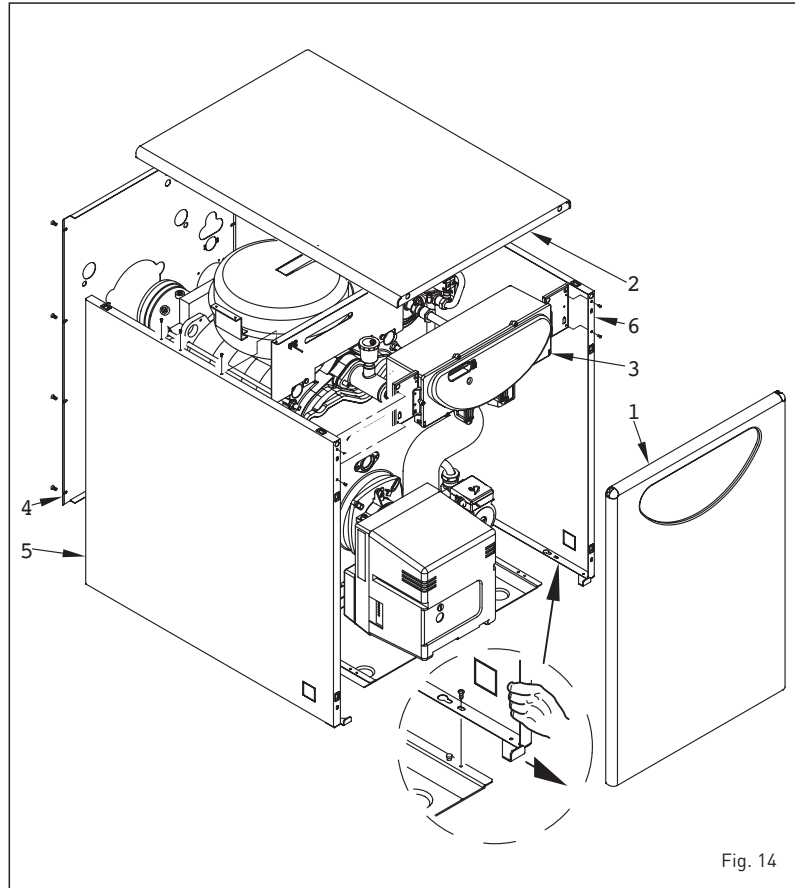

Fig. 14
4.1 DISASSEMBLY OF OUTER CASING (fig. 14)
The shell can be completely disassembled for an easy maintenance of the boiler by following the numeric steps shown in fig. 14.